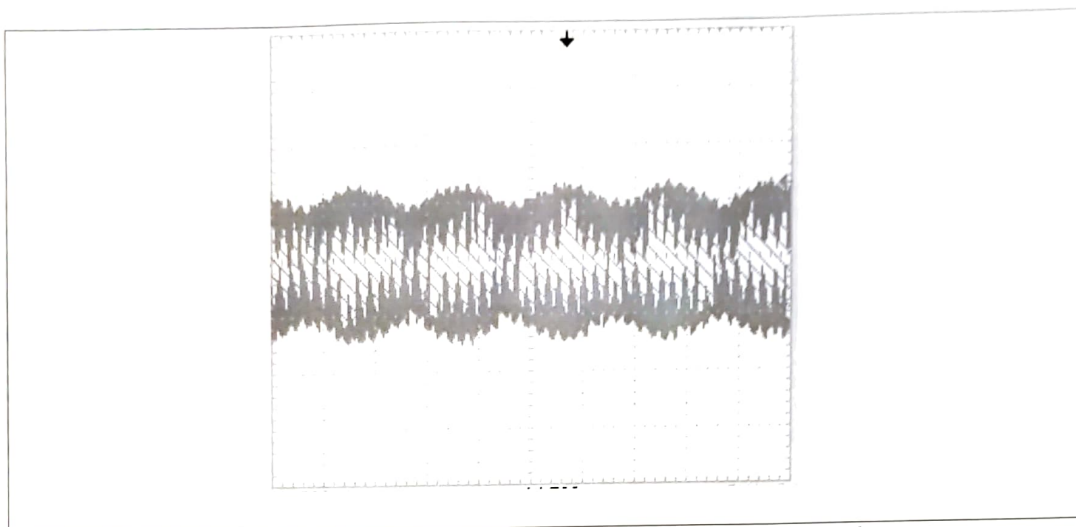

Figure 8: Oscilloscope photo of an AM modulated signal.
5. Observe the signal between JP30 and GND. You should see an amplitude modulated (AM) 27.000 MHz signal as shown in Fig 8. Set your oscilloscope time scale to 500 μ s/div. Set the ACQUIRE mode to Peak-detect. This setting allows the oscilloscope to capture the peak of the RF signal even though the sampling rate of the oscilloscope is not enough to capture the RF signal itself. Increase the signal amplitude until AM signal gets distorted. At this point, determine the modulation index, m, of the AM signal using the following equation